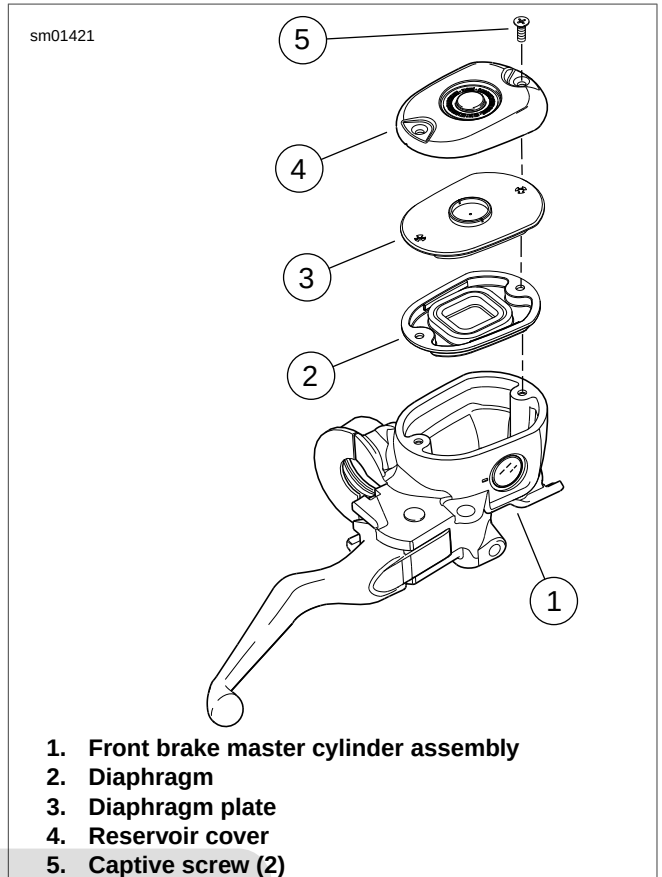

Figure 1-21. Front Brake Master Cylinder Cover Assembly (Typical)
- See Figure 1-21. Remove two screws (5), reservoir cover (4), diaphragm plate (3) and diaphragm (2) from master cylinder reservoir (1).
16. See Figure 1-21. Install diaphragm (2), diaphragm plate (3), reservoir cover (4) and screws (5) on front brake master cylinder reservoir. Tighten screws to 9-17 **in-lbs** (1.0-2.0 Nm).